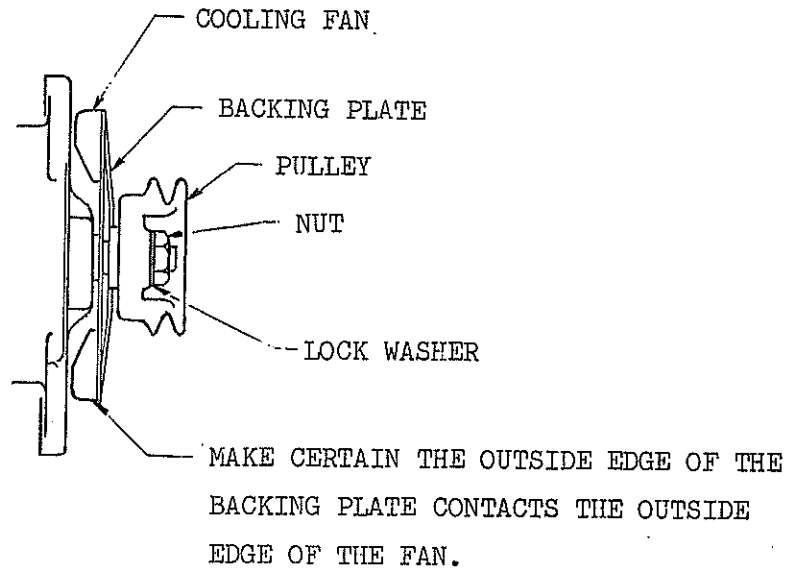

FIGURE 1. DETAILS FOR COOLING FAN INSTALLATION
- (4) Install the new ventilating fan as illustrated in figure 1.